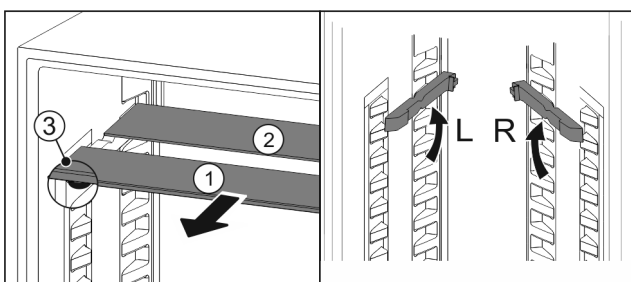

Fig. 51
- Pull the glass panels out Fig. 51 (1) from the front, one at a time.
- ▷ The glass panel Fig. 51 (1) and trim strip are at the front.
- ▷ The stops Fig. 51 (3) point down.